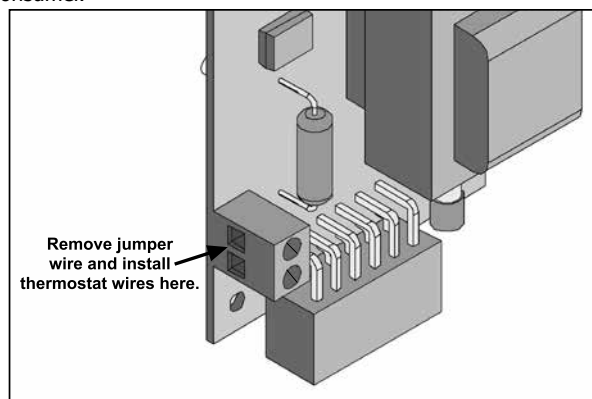

Figure 38: Thermostat wire placement
1. Install the thermostat by connecting a low voltage millivolt thermostat to the circuit board jumper location shown below. Connect 2 x 18 gauge wires from the connection points on the back of the control board to the thermostat (see figure 38).